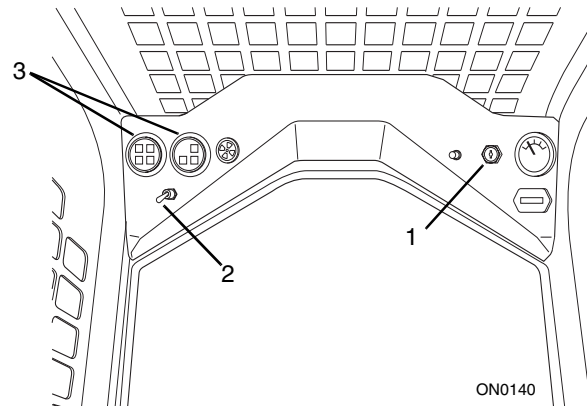

Figure 8-5 Instrument Panel Light Switch
With the ignition switch (Fig. 8-5, 1) in the RUN position and the engine is OFF, momentarily move the switch toggle (2) to the right to test the bulbs in both warning light clusters. It will be necessary to replace any bulbs that DO NOT illuminate.
Move the switch toggle (Fig. 8-5, 2) to the left to turn ON the front and rear worklights.
The engine oil pressure switch is located on the right side of the engine (Fig. 8.5), and is mounted on the oil filter base. It closes at low oil pressure, and illuminates the warning light.